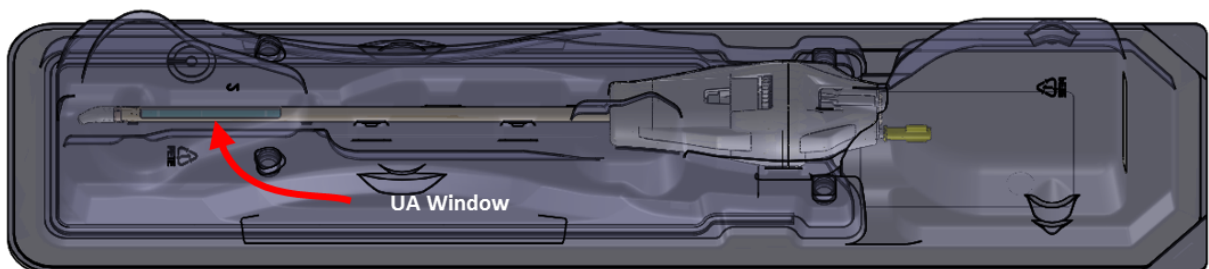

Figure 9: Examine the UA window for air bubbles
- d. Look through the package and carefully inspect the UA window for bubbles (Figure 9). There should be **no** bubbles of **any** size. If you see bubbles, gently tap the package-end close to the UA window against the work surface to dislodge them. If you still see bubbles, repeat the procedure, starting from step “a”.